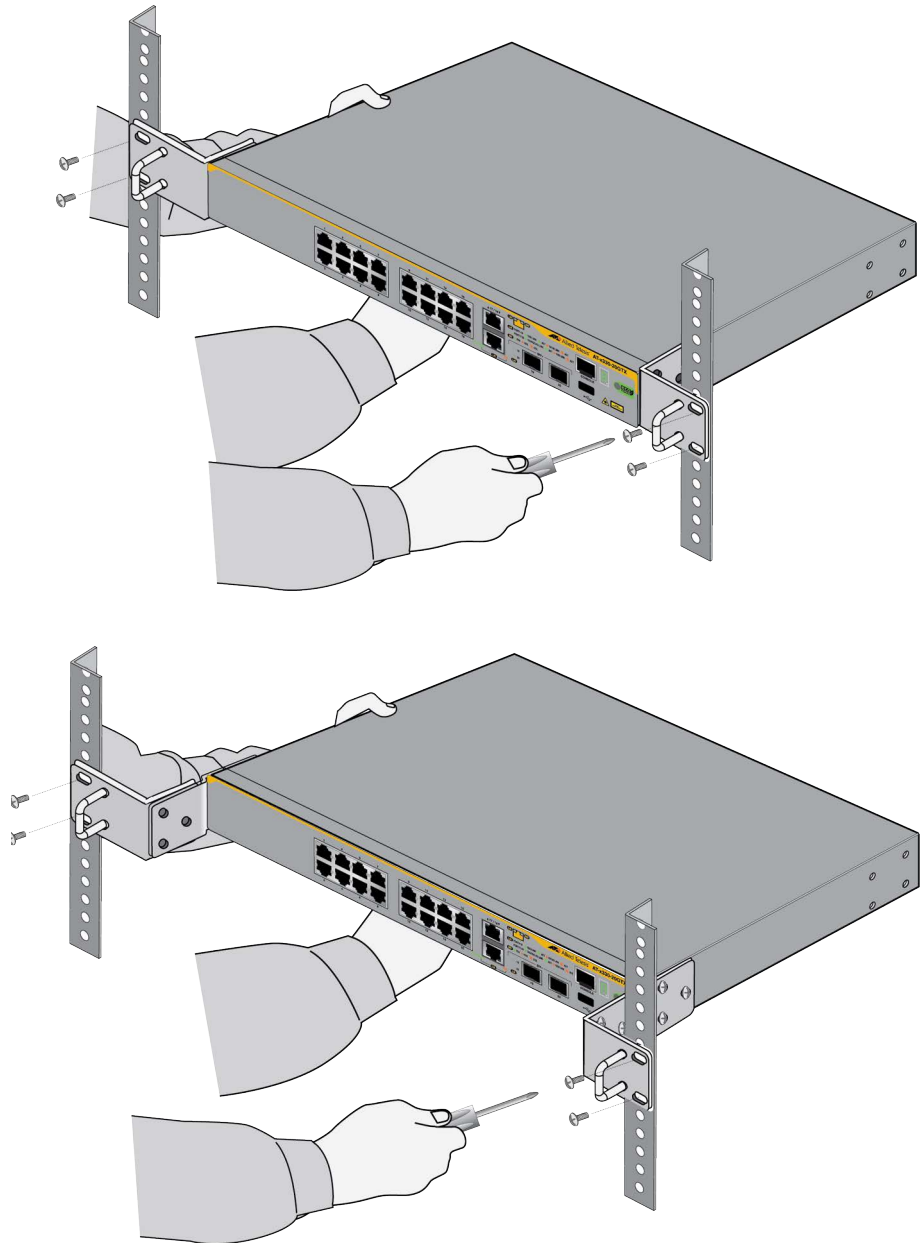

Figure 42. Securing the x330-20GTX Switch in a Standard 19-inch Equipment Rack
6. Have another person hold the switch at the selected location in the equipment rack while you secure it using four standard equipment rack screws (not provided). Refer to Figure 42.